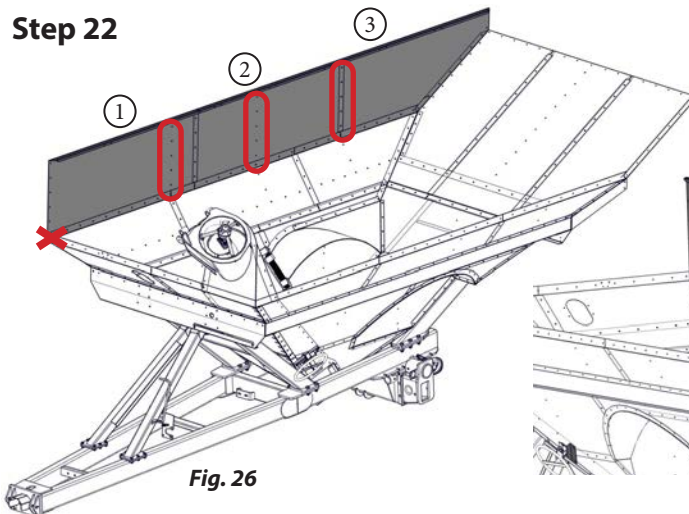
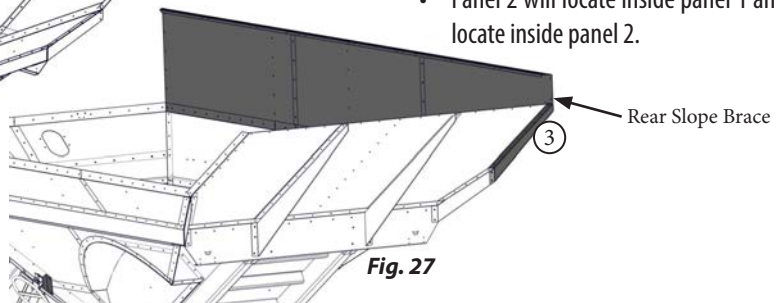

Fig. 26
Fig. 27
- Install in order according to Fig. 26 and Fig. 27.
- Use (36) M10 x 25 hex bolts and (36) M10 hex nuts for the top panels and slope brace.